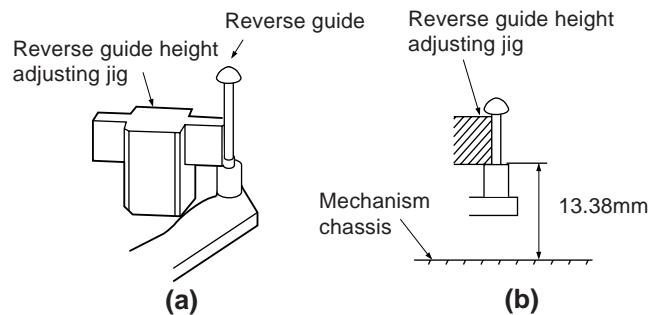

Figure 4-28.
- Adjust the height from the mechanism chassis to the reverse guide lower flange to 13.38 mm, using the reverse guide height adjustment jig, in tape loading state. (Refer to Figure 4-28 (a) (b).)